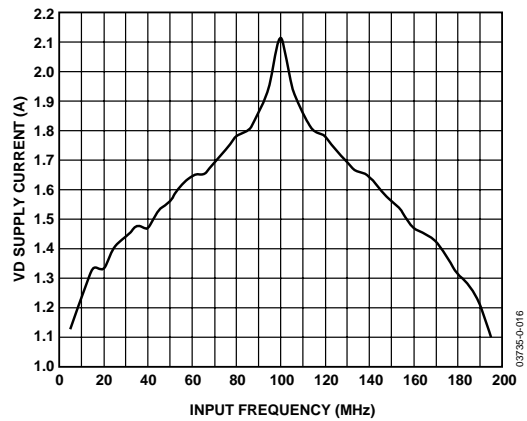

Figure 17. +VD Current vs. A_{IN} Frequency
*The power supply cable has approximately 100 mV drop. The VD supply current is dependent upon the analog input frequency. Refer to Figure 17.